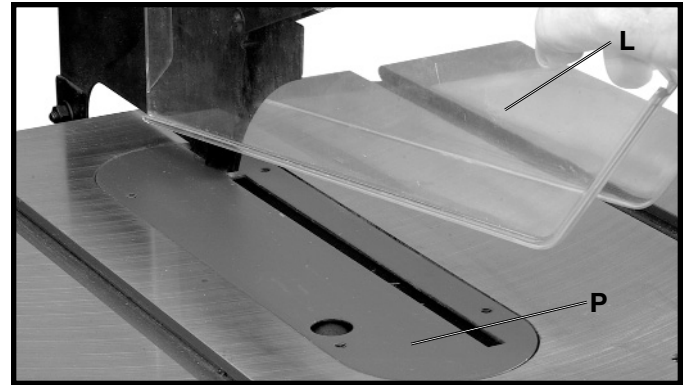

Fig. 38
12. Lower saw blade and install table insert (P) Fig. 38, in the saw table as shown. **⚠ CAUTION THE TABLE INSERT SHOULD BE LEVEL WITH THE TABLE SURFACE. IF AN ADJUSTMENT IS NECESSARY, SEE THE SECTION "ADJUSTING TABLE INSERT".**